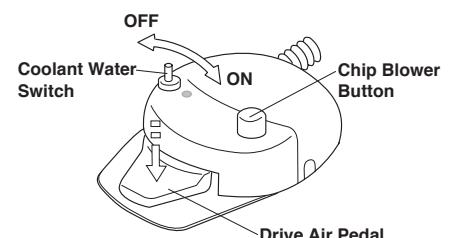

Fig.3-29 Foot Control
(1) Foot Control (Type A2) (Fig.3-29)